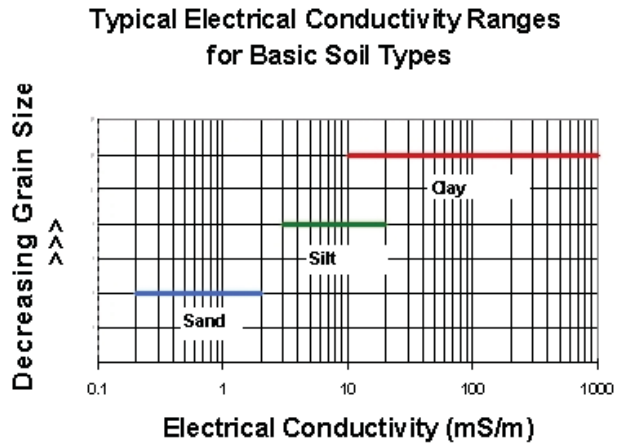

Figure 2.2: Generalized Electrical Conductivity Readings
Interpretation of electrical conductivity (EC) logs comes with field experience. It is very important that soil core samples are taken to confirm lithologic changes as each EC log is unique per site. As a generalization, a high conductivity reading indicates a smaller grain size and a low conductivity reading indicates a larger grain size (See Fig. 2.2).